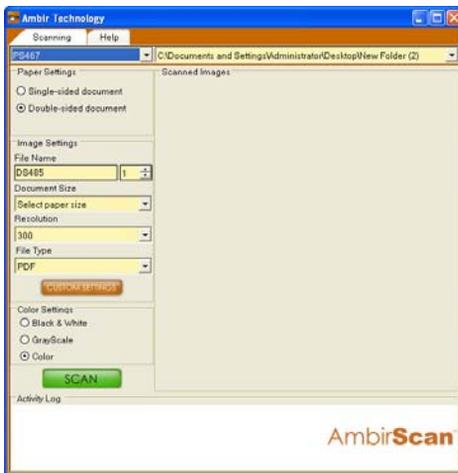

Figure 1
- 1) The first is by utilizing the AmbirScan control panel (Figure 1) that allows you to select from the most common paper sizes, image settings and basic file output information (location & name of your document). These files can be saved in multiple file formats. If you need to scan multi-page documents please select PDF format.